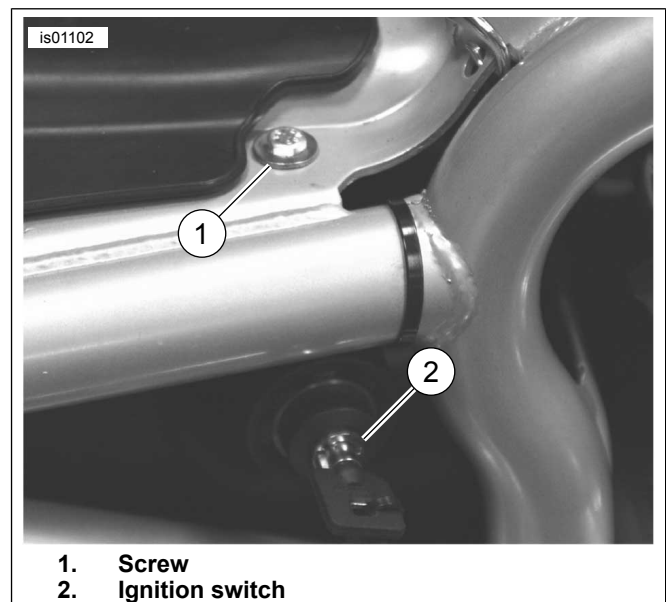

Figure 5. Ground Connection (2006 and Earlier V-Rod Models)
1. See Figure 5. Remove the screw (1, under the seat) that fastens the ignition switch (2) to the right side of the frame.